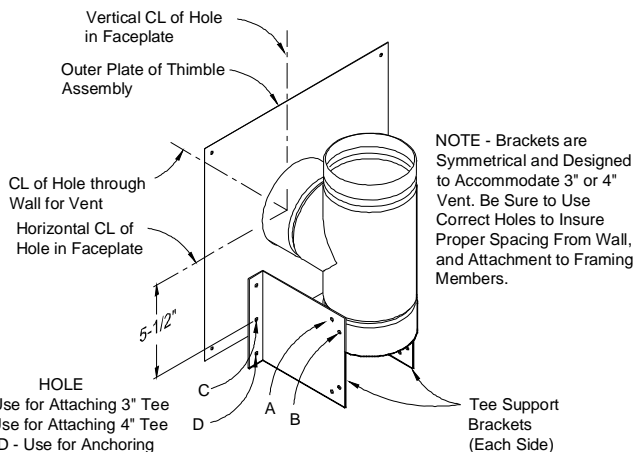

FIG. 6 TEE SUPPORT BRACKET
1. Referring to Fig. 6, first draw a pencil line on the outer faceplate of the thimble, extending horizontally through the center of the hole.
2. Measure down 5-1/2" and draw a second horizontal line. This line, which is over the center of the lower framing member, will be used to locate the topmost screws (location "C" in Fig. 6) for the support brackets.
4. Referring to Fig. 6, orient the support brackets as shown and attach each to the bottom left and right side of the tee using a hex head screw routed through the appropriate holes in the support brackets ("A" or "B" from Fig. 6) and into the 1/8" hole provided in each side of the tee, approximately 1" up from the bottom. Rotate brackets to the approximate position shown. Engage screws partially.
8. Once properly situated, secure brackets to wall with four (4) wood screws (provided) using holes "C" and "D". Note that the top hole on the flange of each bracket is not used.